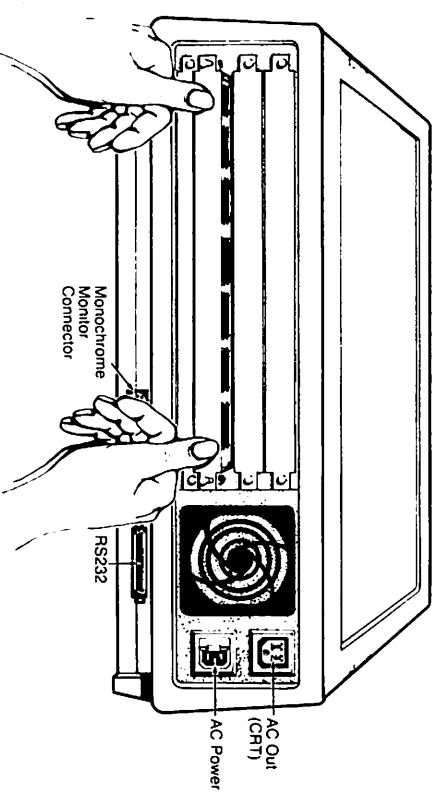

Figure 6
7. Then apply steady, equal pressure to both edges of the panel (near the buttons) to push the pan all the way in and "seat" the connector. Push the buttons in to lock the board into position. (See Figure 6.)